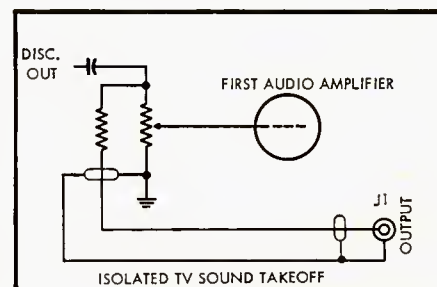

Fig. 1
A. In this country, television audio is FM. It is detected by either a ratio detector or a discriminator. The output of such circuits is shown in Fig. 1. Although this is a typical circuit, it is by no means the only way of arranging the output. Sometimes the output is coupled to the TV set's first audio amplifier tube with no control, with the volume control acting as a variable grid return rheostat for the first stage or for the output stage. Such ar-